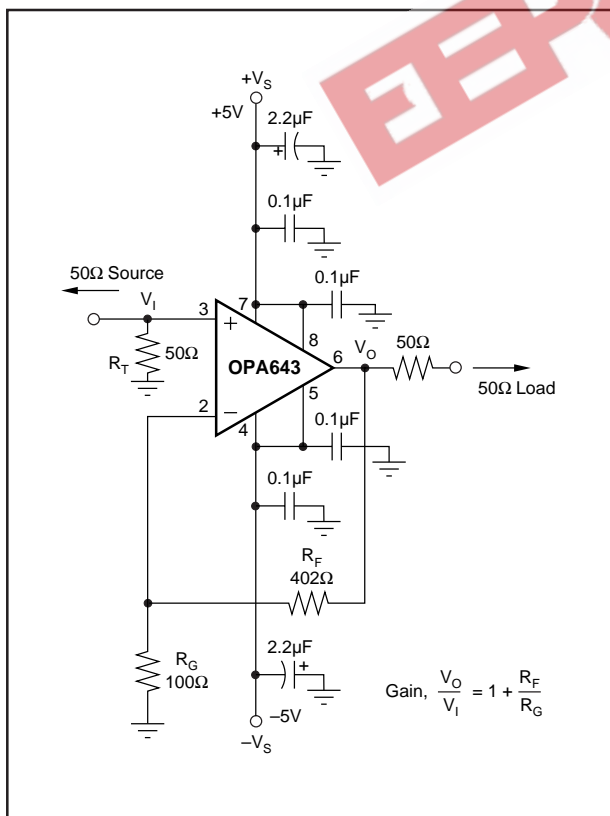

FIGURE 1. Gain of +5, High Frequency Application and Characterization Circuit (P or U Package).
The OPA643's combination of speed and dynamic range is easily achieved in a wide variety of application circuits, providing that simple guidelines common to all high speed amplifiers are observed. For example, good power supply decoupling, as shown in Figure 1, is essential to achieve the lowest possible harmonic distortion and smooth frequency response. Careful PC board layout and component selection will maximize the performance of the OPA643 in all applications, as discussed in the remaining sections of this data sheet.
Figure 1 shows the gain of +5 configuration used as the basis for most of the Typical Performance Curves. Most of the curves were characterized using signal sources with 50Ω driving impedance, and with measurement equipment presenting 50Ω load impedance. In Figure 1, the 50Ω shunt resistor at the V_I terminal matches the source impedance of the test generator, while the 50Ω series resistor at the V_O terminal provides a matching resistor for the measurement equipment load. Generally, data sheet specifications refer to the voltage swing at the output pin (V_O in Figure 1). The total 100Ω load from the series and shunt matching resistors, combined with the 502Ω total feedback network load, presents the OPA643 with an effective output load of approximately 83Ω.
To deliver the lowest possible distortion using the 8-pin SO-8 or DIP package, additional 0.1μF power supply decoupling capacitors on pins 5 and 8 are required. These are shown in Figure 1. Although pins 5 and 8 are internally connected to pins 4 and 7 respectively (the standard supply pins for 8-pin op amps), the additional capacitors help to decouple the package lead inductances and decrease the second-harmonic distortion for a 5MHz fundamental by approximately 4dB. The much shorter bond wires and supply leads of the SOT23-5 package give the best distortion performance while requiring only two power supply connections.
Since the OPA643 is a voltage feedback op amp, a wide range of resistor values may be used for the feedback and gain setting resistors (R_F and R_G in Figure 1). The primary limits to these values are set by dynamic range (noise and distortion) and parasitic capacitive considerations. Usually, the feedback resistor value should be between 200Ω and 1kΩ. Below 200Ω, the feedback network will present additional output loading which can degrade the harmonic distortion performance of the OPA643. Above 1kΩ, the typical parasitic capacitance (approximately 0.2pF) across the feedback resistor may cause unintentional band-limiting in the amplifier response.
A good rule of thumb is to target the parallel combination of R_F and R_G (Figure 1) to be less than about 200Ω. The combined impedance $R_F \parallel R_G$ interacts with the inverting input capacitance, placing an additional pole in the feedback network and thus a zero in the forward response. Assuming a 3pF total parasitic on the inverting node, holding $R_F \parallel R_G < 200\Omega$ will keep this pole above 250MHz. By itself, this constraint implies that the feedback resistor R_F can increase to several kΩ at high gains. This is acceptable as long as the pole formed by R_F and any parasitic capacitance appearing in parallel with it is kept out of the frequency range of interest. The exception to this is in wideband transimpedance applications as described earlier. There, a feedback pole is used to compensate for the zero formed by the input capacitance and the feedback resistor.
Generally, until the fundamental signal reaches very high frequencies or powers, the second harmonic will dominate the distortion with negligible third harmonic component. Focusing then on the second harmonic, increasing the load impedance improves distortion directly. Remember that the total load includes the feedback network—in the non-inverting configuration this is sum of $R_F + R_G$, while in the inverting configuration it is only R_F (Figure 1). Larger output voltage swings lead directly to increased harmonic distortion. A $6dB$ increase in output voltage swing will generally increase the second harmonic by $12dB$ and the third harmonic by $18dB$. Higher signal gain settings will also increase the second harmonic distortion. A $6dB$ increase in voltage gain will raise the second and third harmonics by
Evaluating these two equations for the OPA643 component values shown in Figure 1 will give a total output spot noise voltage of $13.3nV/\sqrt{Hz}$ and a total equivalent input spot noise voltage of $2.7nV/\sqrt{Hz}$.
Narrowband communications systems are more commonly concerned with the Noise Figure (NF) for the amplifier. The total input referred voltage noise expression (Equation 2 above), may be used to calculate the noise figure. Equation 3 shows the noise figure expression using the E_N of Equation 2 for the non-inverting configuration where the input termination resistor R_T has been set to match the 50Ω source impedance (as shown in Figure 1).
Evaluating Equation 3 for the circuit of Figure 1 gives a Noise Figure = 15.9dB. Input transformer coupling can be used to reduce this noise figure. A broadband pulse transformer can provide both a noiseless voltage gain and a more optimum source impedance to minimize the noise figure. Figure 9 shows an example built from the circuit of Figure 1, in which the transformer turns ratio has been set to the closest integer for minimum noise figure. This optimum turns ratio is calculated by:
The OPA643 provides excellent DC signal accuracy due to the combination of high open-loop gain, high common-mode rejection, high power supply rejection, low input offset voltage and low bias current offset errors. The high grade (B) version of any package type provides less than 1.5mV input offset voltage. To take full advantage of this low input offset voltage, careful attention to input bias current cancellation is also required. The high speed input stage for the OPA643 has a relatively high input bias current (19μA typical into each input pin) but with a very close match between the two input currents—typically 100nA input offset current. The total output offset voltage may be considerably reduced by matching the source resistances which appear at the two inputs. For example, one way to include bias current cancellation in the circuit of Figure 1 would be to insert a 55Ω series resistor into the non-inverting input after the 50Ω terminating resistor, R_T . When the 50Ω source resistor is DC coupled, this will increase the source resistance for the non-inverting input bias current to 80Ω . Since this is now equal to the resistance appearing at inverting input ($R_F \parallel R_G$), the circuit will cancel the gains for the bias currents to the output, leaving only the offset current times the feedback resistor as a residual DC error term at the output. Using a 402Ω feedback resistor, this output error will now be less than $3\mu A \cdot 402\Omega = 1.2mV$ over the full temperature range.
As a worst case example, compute the maximum T_J using an OPA643N (SOT23-5 package) in the circuit of Figure 1 operating at the maximum specified ambient temperature of $+85^\circ\text{C}$. $P_D = 10\text{V} \cdot 26\text{mA} + 5^2 / (4 \cdot (100\Omega \parallel 502\Omega)) = 335\text{mW}$. Maximum $T_J = +85^\circ\text{C} + (0.335\text{W} \cdot 150^\circ\text{C/W}) = 135^\circ\text{C}$.